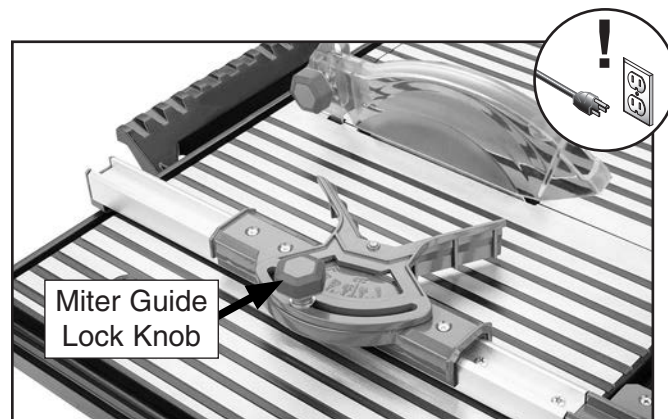

Figure 31. Miter guide lock knob location.
3. If making an angled cut, loosen miter guide lock knob, adjust to desired miter angle, and tighten to secure (see **Figure 31**). If rip cutting, remove miter guide.